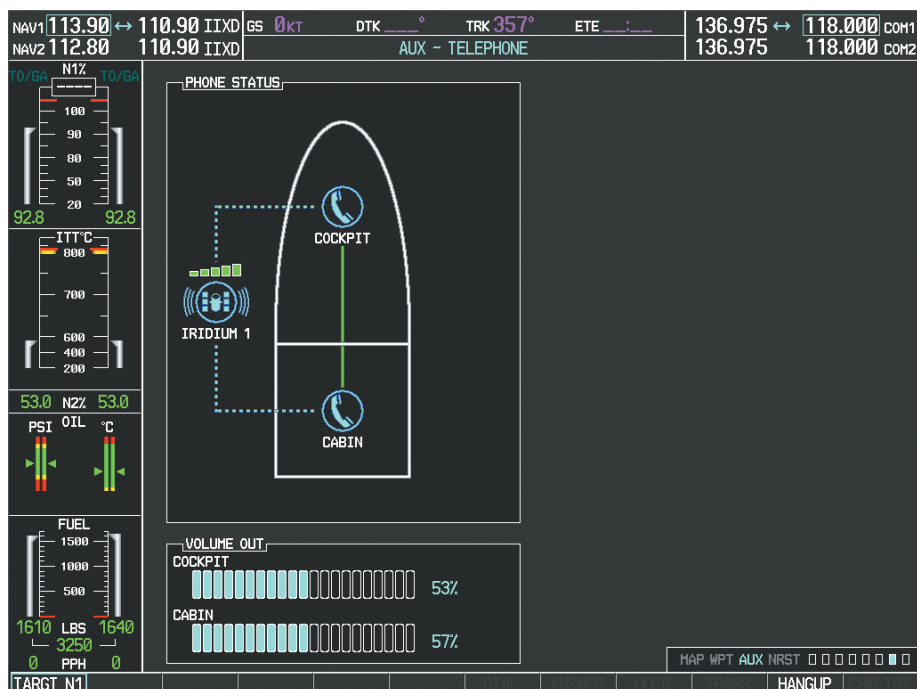

Figure 8-92 Conference in External Phone
- 5) Press the **ENT** Key again to place the call as shown in Figure 8-92.